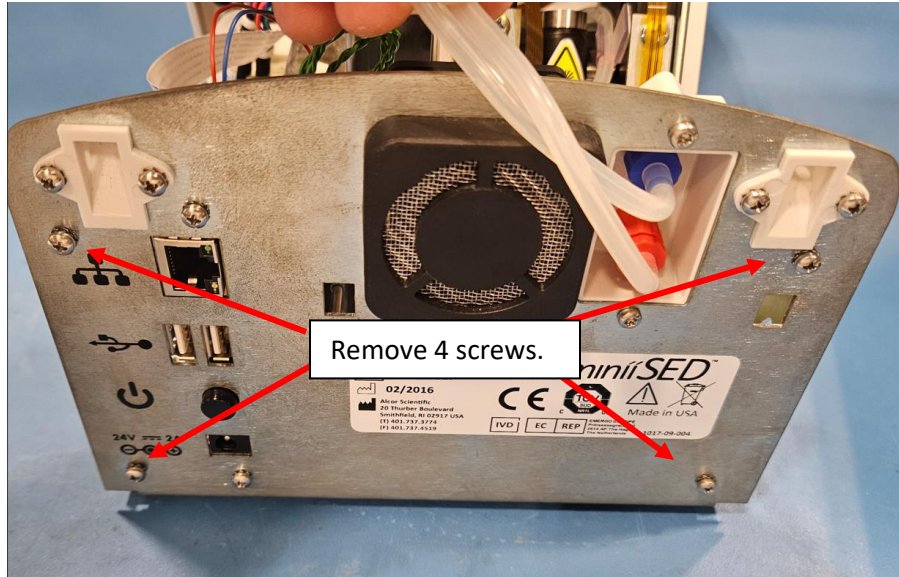

Figure 10
2.9. Remove 4 screws from Rear Panel. Figure 10.